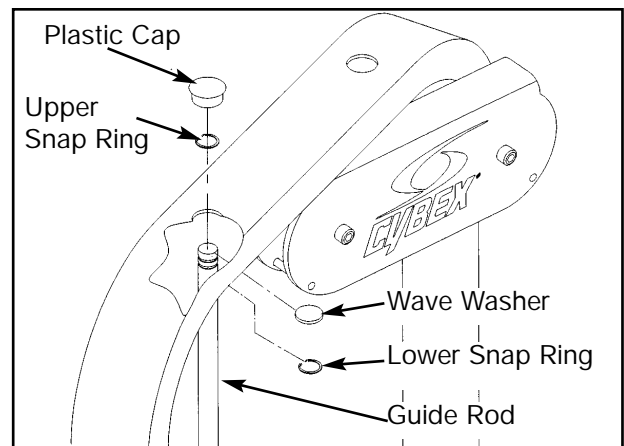

Figure 2
- Remove the plastic cap on guide rod hole by gently lifting guide rod up and down until plastic cap is forced off. Repeat this step for the other guide rod. See Figure 2.
- Raise guide rod high enough to expose the upper snap ring. Using an external snap ring pliers, remove snap ring and lower guide rod. Then remove the lower snap ring and wave washer. Repeat this step for the other guide rod. See Figure 2.
NOTE: For the Hip Abduction, Hip Adduction and Rotary Calf machines, lean guide rod away from the weight stack guard. See Figure 2.